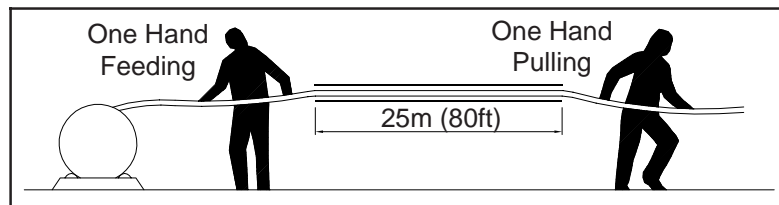

Figure 30
6. When feeding the cable into the conduit, one person must feed the cable into the conduit to prevent the cut end of the conduit from damaging the jacket whilst another person pulls the cable through from the other end. See Figure 30.